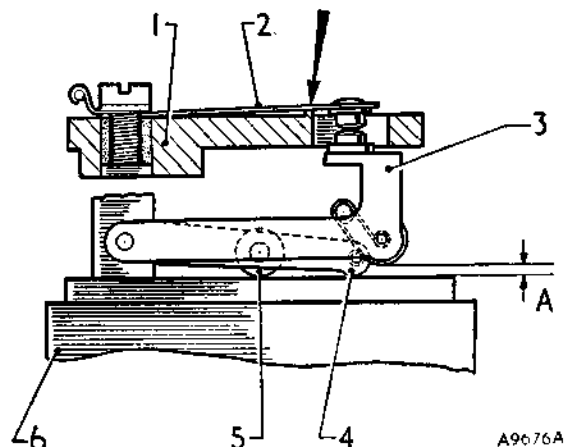

Fig. D.6
35. Check the gap between the points indirectly by carefully holding the contact blade against the rib on the pedestal, without pressing against the tip (Fig. D.6), then check if a  $.030$  in. (.8 mm.) feeler will pass between the fibre rollers and the face of the coil housing. If necessary, the tip of the blade can be set to correct the gap.